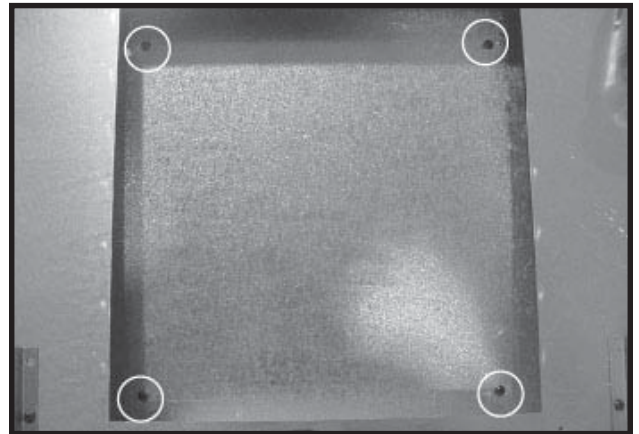

Figure 18 - Place Heat Shield Cover Plate on Top of Heat Shield
- n. Locate the heat shield cover plate that was removed in Step a. Place the cover plate on top of the heat shield. Replace the four screws that hold this plate in place. See Figure 18.